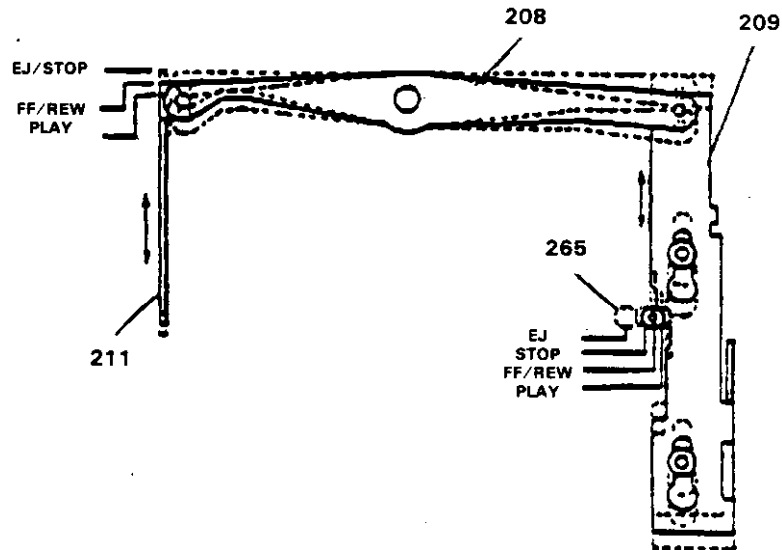

FIGURE 3-4. PLAY MODE
When the tape-in switch is pushed to ON, the Motor (305) starts and the Program-Change Solenoid (314) and FF/REW Solenoid (315 and 316) are all energized. The Mode Gear (260) then starts turning and the Power Plate (211), Power Arm (208) and Mode Plate (209) move to PLAY position, (see Figure 3-4).